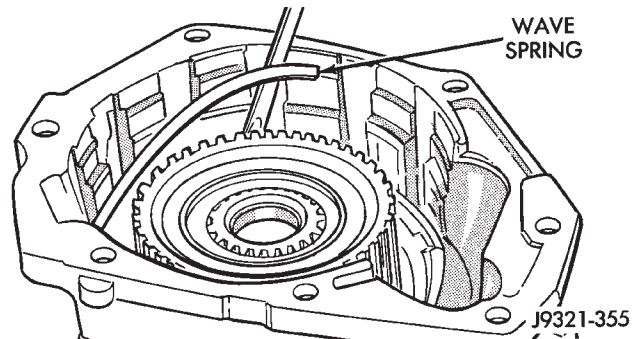

Fig. 235 Overdrive Clutch Wave Spring Installation
(2) Install wave spring on top of reaction ring (Fig. 235). **Reaction ring and wave ring both fit in same ring groove.** Use screwdriver to seat each ring securely in groove. Also ensure that the ends of the two rings are offset from each other.